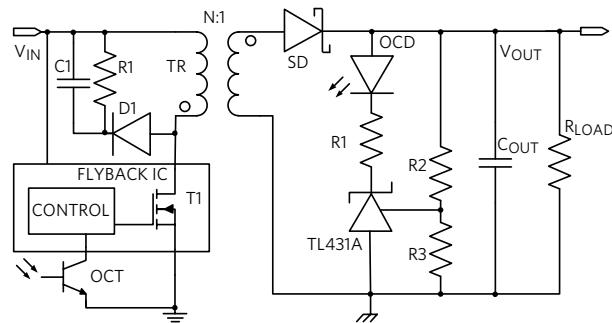

Figure 25. Flyback with Optocoupler
Using galvanically isolated transformers with PWM control is the most common architecture for an isolated DC-DC power supply. The flyback converter is the classic architecture that produces an isolated output. *Figure 25* shows the traditional implementation. During the "ON" time of the transistor T_1 , the voltage across the primary winding is positive (equal to V_{IN}) and the voltage across the secondary winding is negative. Consequently, the Schottky diode (SD) prevents energy from passing to the output and the energy is stored in the transformer. During the "OFF" time of T_1 , the primary winding inverts its voltage, which allows the energy to be released to the output. The control loop is quite complex, often requiring a shunt regulator (TL431A) on the secondary to regulate the voltage at the output. An optocoupler and error amplifier on the secondary-side of the transformer provide the isolated feedback signal needed to close the PWM control loop to the primary side.